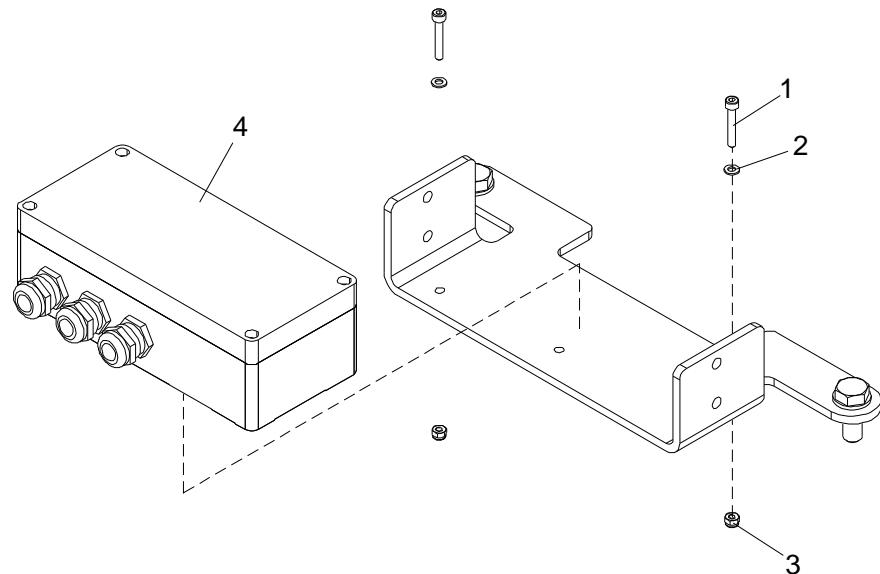

Figure 7-35: Replacement of Terminal Box Complete
2. Open the cover of the terminal box (4). See Figure 7-35.
3. Take notes how the wiring is connected to the terminal block inside the terminal box (4).
5. Remove the terminal box complete (4) by removing the screws (1), washers (2) and nuts (3).
2. Fit the terminal box complete (4) and mount the screws (1), washers (2) and nuts (3). See Figure 7-35.
3. Connect the wiring to the terminal block inside the terminal box (4) according to previous notes and circuit diagram in Section 7.49.
4. Close the cover of the terminal box (4).